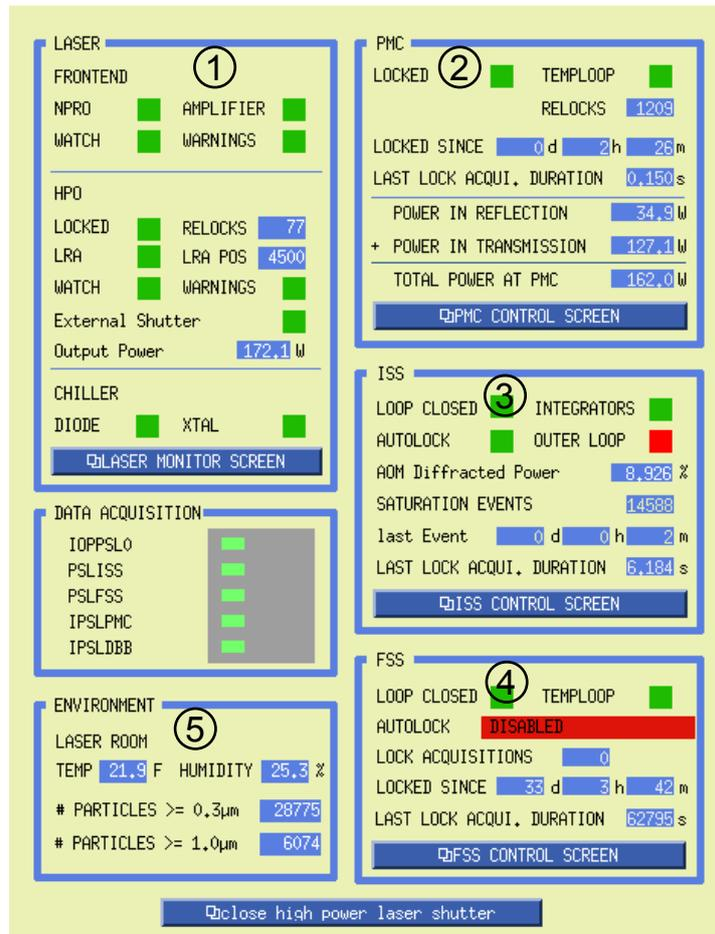

Figure 1: PSL Status monitor screen
On the PST STATUS page the user can see all important information about the PSL system at a glance (see Fig. 1). It is divided into six parts, the first gives an overview of the frontend and the HPO ①. The second part shows all important information about the PMC ②, with the third summarizes the information from the ISS ③. The status of the frequency stabilization is shown in the fourth section ④, at the bottom of this section a blue field links to more detailed EPICS screens for the relevant part of the PSL. As the last of the screen also shows information about the area of the laser on ⑤. At the bottom of the status screen a "close high power laser shutter"